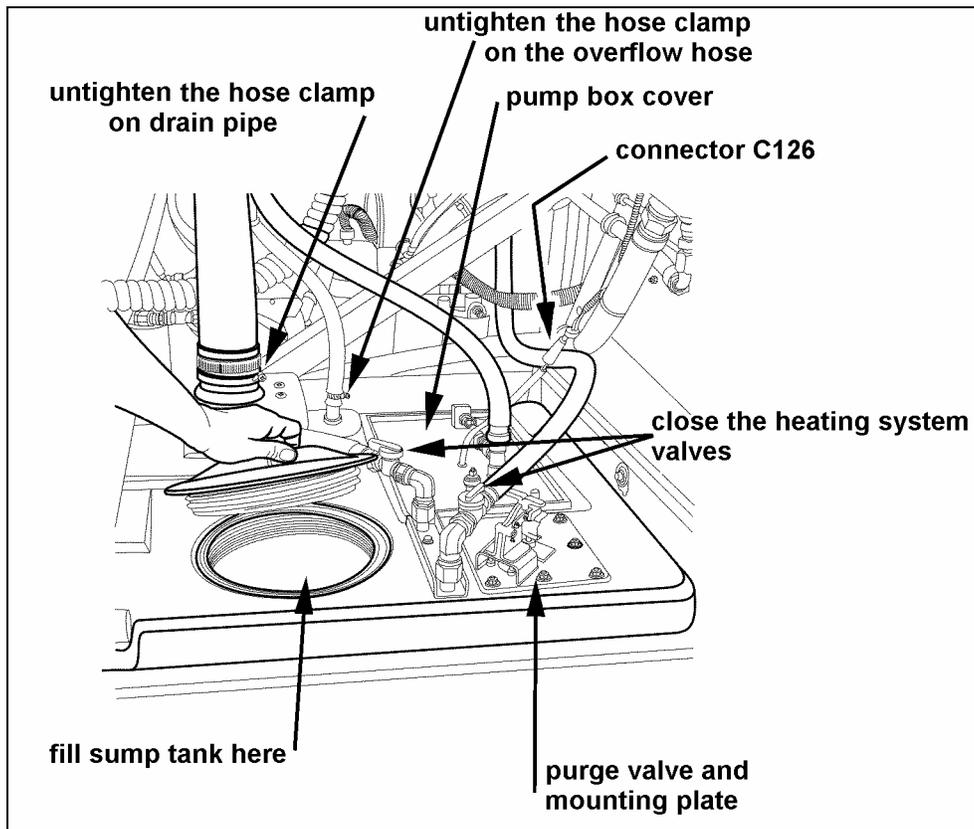
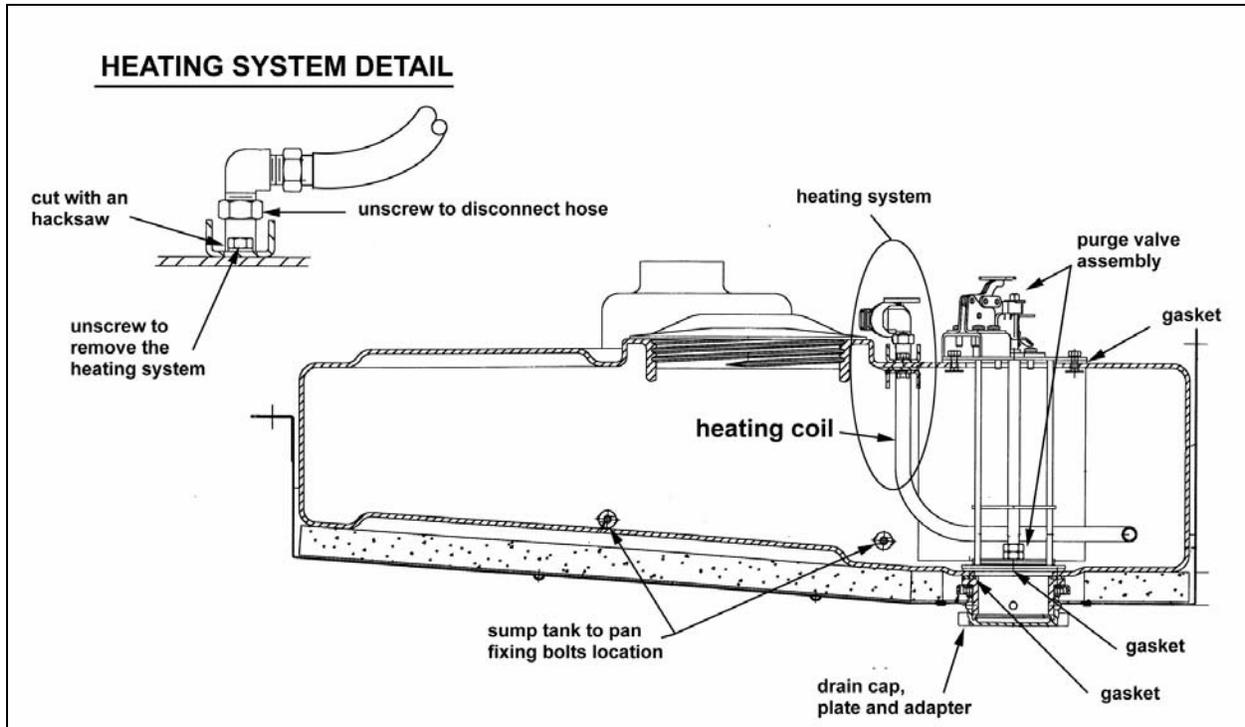
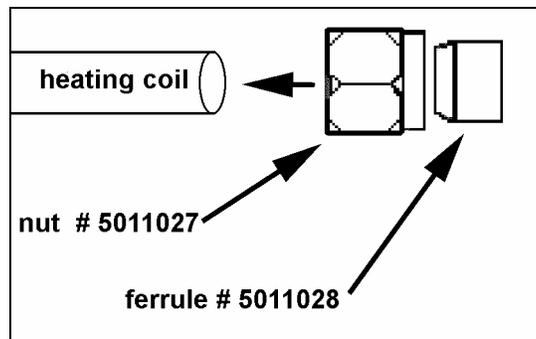
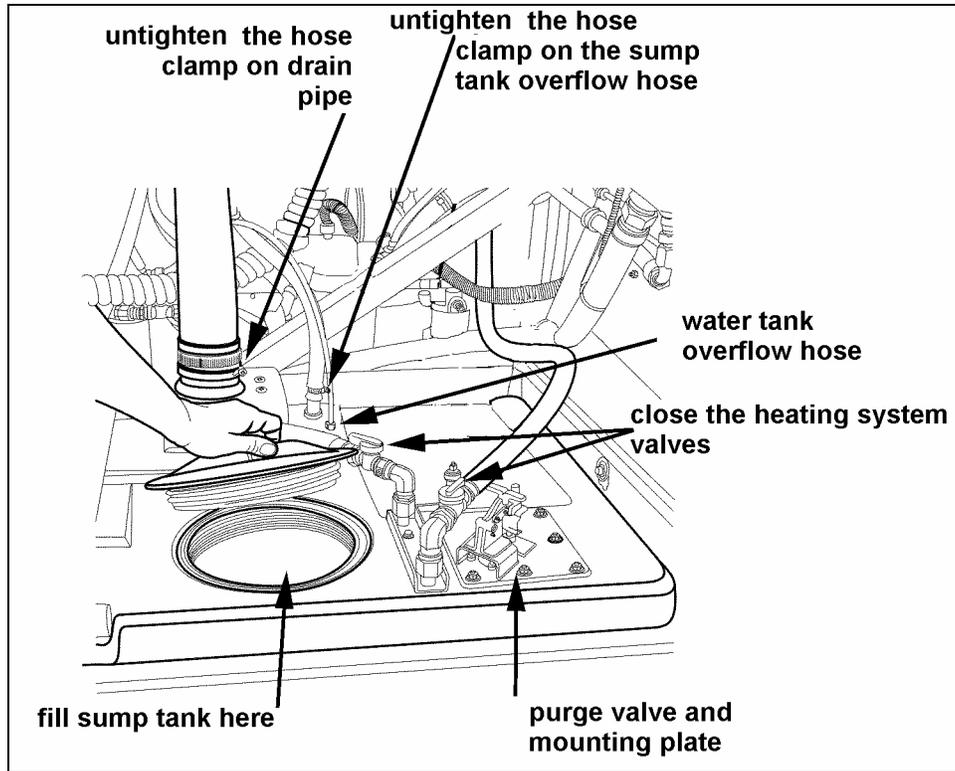

FIGURE 3 : SUMP TANK WITH COMPONENTS
FIGURE 4 : CROSS-SECTION VIEW OF SUMP TANK (H3) AND AUXILIARY SUMP TANK (XL)
FIGURE 7 : INSTALLATION OF FITTING ON HEATING COIL
FIGURE 9 : AUXILIARY SUMP TANK WITH COMPONENTS
5. In the engine R.H. side compartment, disconnect the pump connector C126 (figure 3).
6. Using a 10mm wrench, unscrew fixing bolts of pump box cover (figure 3).
8. Under the vehicle, locate the drain cap of the sump tank. Unscrew the 4 bolts and remove the plate, the adapter and the gasket (figure 4).
9. In the engine R.H. side compartment, unscrew the purge valve mounting plate (figure 3) and remove the purge valve assembly from the sump tank (figure 4). Make sure that you have the gasket located at the base of the assembly, if not, it has fallen in the bottom of the tank.
10. Close the heating system (option) valves on the sump tank (figure 3).
11. Unscrew the heating system fitting to remove the hoses (figure 4).
12. Loosen the hose clamp on the drain pipe and remove the drain pipe from the sump tank (figure 3).
13. Loosen the hose clamp on the overflow hose and remove the hose (figure 3).
15. Unscrew the fixing bolts on the side of the pan to remove the sump tank from the pan (figure 4).
18. Unscrew the fixation bolts on the heating system (see detail on figure 4). Cut the heating coil with an hacksaw and remove the heating system from the sump tank (figure 4).
24. Put back the drain pipe on the sump tank and tighten the hose clamp (figure 3).
25. Connect the water tank overflow hose on the new sump tank and tighten the hose clamp (figure 3).
28. Connect the pump connector C126 (figure 3).
29. Slide nut # 5011027 and ferrule # 5011028 on the heating coil (figure 7). Connect the heating system hoses to the heating coil fittings (figure 4).
30. Install the purge valve (figure 4) on the new sump tank. Make sure that the gasket (figure 4) is properly placed at the bottom of the assembly. Under the vehicle, put back the gasket, the adapter and the drain cap. Screw the 4 bolts (figure 4).
5. Under the vehicle, locate the drain cap of the auxiliary sump tank. Unscrew the 4 bolts and remove the plate, the adapter and the gasket (figure 4).
6. In the engine R.H. side compartment, unscrew the purge valve mounting plate (figure 9) and remove the purge valve assembly from the auxiliary sump tank (figure 4). Make sure that you have the gasket located at the base of the assembly, if not, it has fallen in the bottom of the tank.
7. Close the heating system (option) valves on the auxiliary sump tank (figure 9).
8. Unscrew the heating system fitting to remove the hoses (figure 4).
9. Untighten the hose clamp on the drain pipe and remove the drain pipe from the auxiliary sump tank (figure 9).
10. Untighten the hose clamp on the sump tank overflow hose and remove the hose (figure 9).
11. Untighten the hose clamp on the water tank overflow hose (figure 9).
13. Unscrew the fixing bolts on the side of the pan to remove the auxiliary sump tank from the pan (figure 4).
15. Unscrew the fixation bolts on the heating system (see detail on figure 4). Cut the heating coil with an hacksaw and remove the heating system from the auxiliary sump tank (figure 4).
17. Install the heating coil on the new auxiliary sump tank (figure 4).
21. Put back the drain pipe on the sump tank and tighten the hose clamp (figure 9).
22. Connect the water tank overflow hose and the sump tank overflow hose on their respective fitting on the new auxiliary sump tank and tighten the hose clamps (figure 9)
23. Slide nut # 5011027 and ferrule # 5011028 on the heating coil (figure 7). Connect the heating system hoses to the heating coil fittings (figure 4).
24. Install the purge valve (figure 4) on the new auxiliary sump tank. Make sure that the gasket (figure 4) is properly placed at the bottom of the assembly. Under the vehicle, put back the gasket, the adapter and the drain cap.